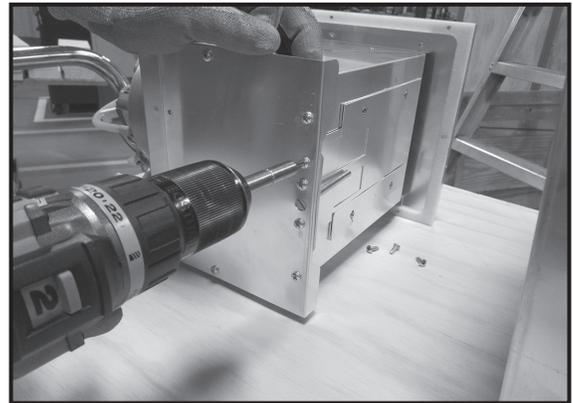

Figure 3.13
- The air baffle is shipped in the closed position; for certain vent runs the air baffle will need to be adjusted. To adjust the baffle, remove the locking screw. See Figure 3.13. (See Table 3.1 to determine baffle setting.)